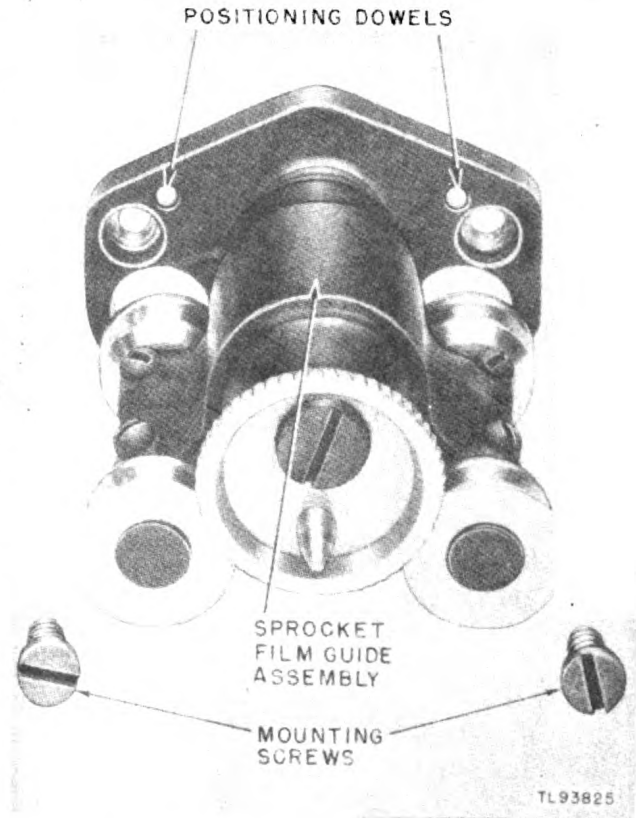

Figure 118. Sprocket film guide assembly removed.
56. Replacing Sprocket Film Guide Assemblies (fig. 118).